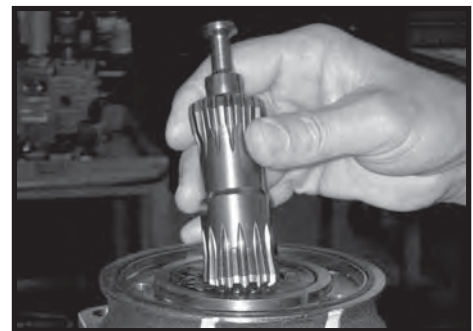

Figure 16
**NOTE:** If rotor set (8) has two stator halves (8B & 8D) and two sets of seven vanes (8C & 8E) as shown in the alternate construction TG rotor set assembly view, check the rotor lobe to roller vane clearance at both ends of rotor.
12. Remove drive link (10) from coupling shaft (12) if it was not removed with rotor set and wear plate. Inspect drive link for cracks and worn or damaged splines. No perceptible lash (play) should be noted between mating spline parts. SEE FIGURE 16. Remove and discard seal ring (4) from housing (18).